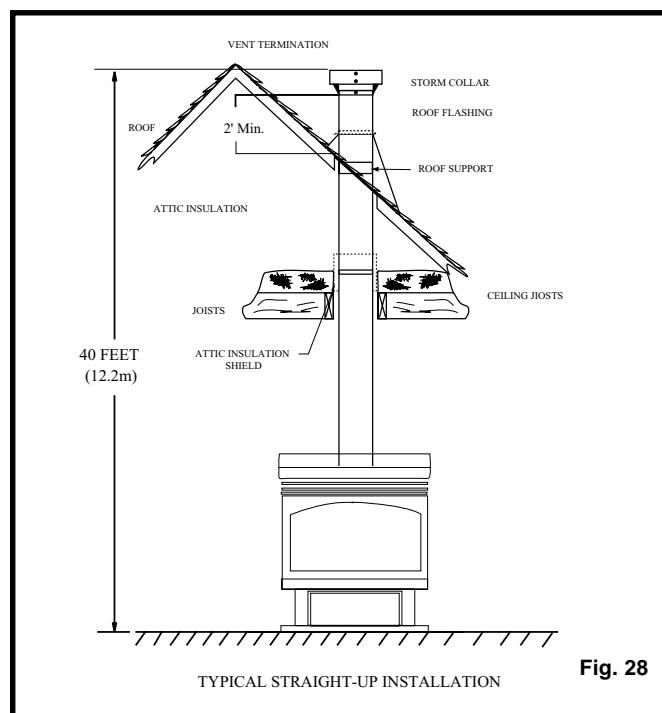

Fig. 28
The minimum height of the vent above the highest point of penetration through the roof is 2 feet (Fig. 28).
10. Add additional vent lengths for proper height (Fig. 28).